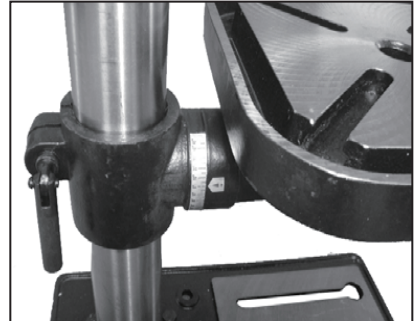

Figure 10
- Rotate table to desired angle right or left. Use bevel scale for precise setting. **See Fig.10**